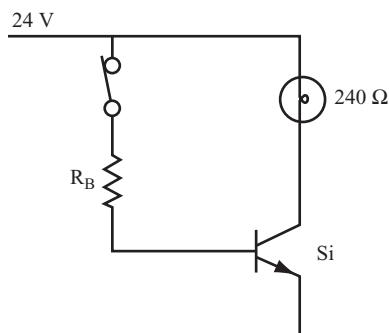

FIGURE 4.3
- 4 The circuit in Figure 4.3 shows a lamp with a resistance of 240 ohms in place of R_C .